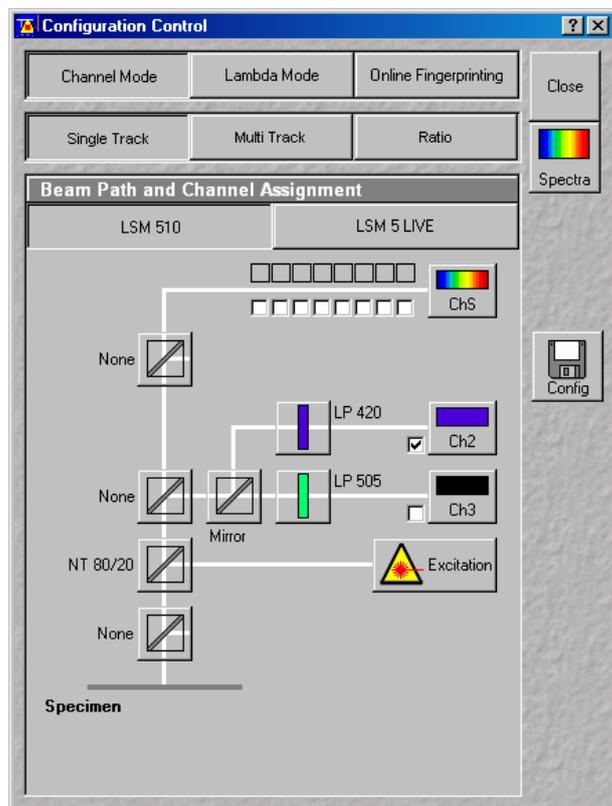

Fig. 12 Configuration Control window for Single Track (LSM 510)
The **Configuration Control** window appears (Fig. 12).
- Select **Channel Mode** if necessary (Fig. 12).
- Click on the **Single Track** button in the **Configuration Control** window (Fig. 12).